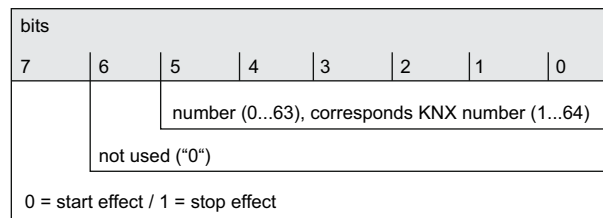

Figure 54: Structure of the object value for the effect extension
The structure of the telegram value for the effect extension is orientated to the KNX DPT 18.001, which is also used in the scene extension (Figure 54).
- i** It should be noted that the object value of the extension input is always "1" less than the configured KNX number, in accordance with KNX DPT 18.001 (Figure 54).